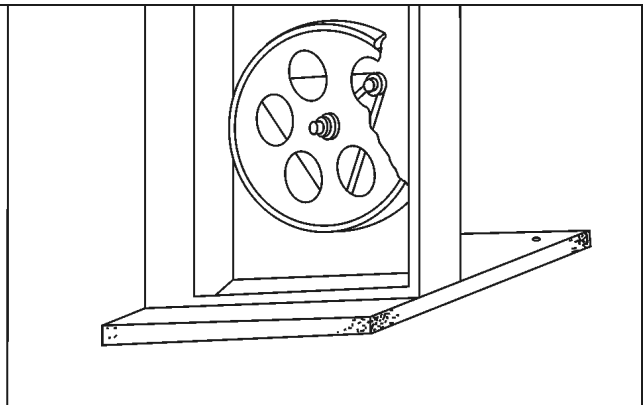

Fig. 5
1.5 Adjust the adjusting screws on the triangle support of the lower saw blade wheel support to ensure the saw blade moving and make sure the lower wheel to be parallel to the upper wheel.(See Fig.5)